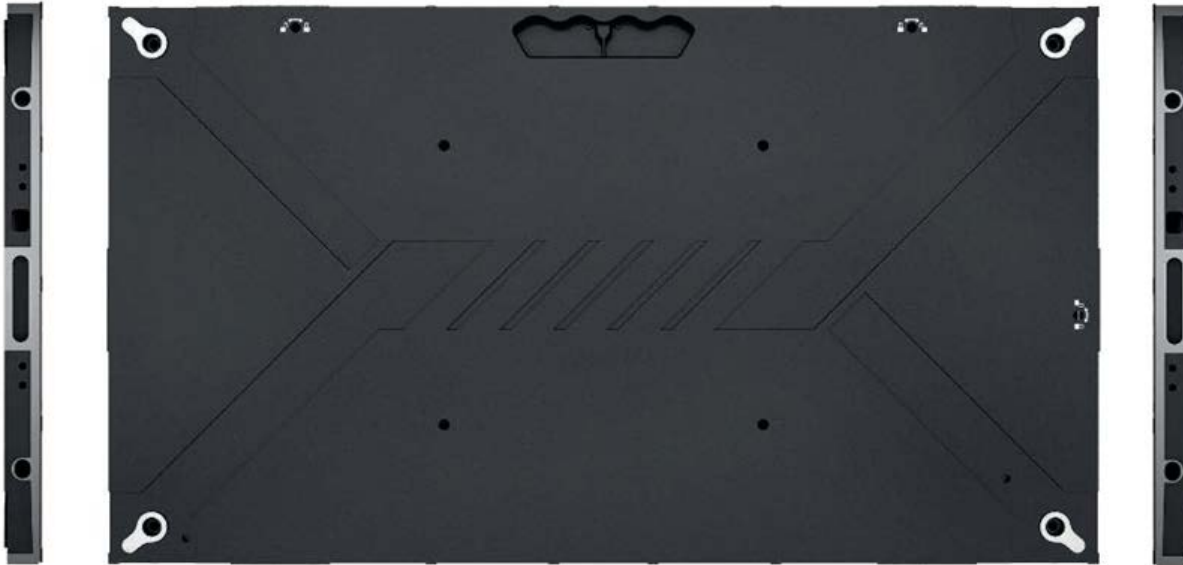

Figure 28
1. Install the left and right edgings. The left and right edgings are clipped in the side spring locating pinhole with clips (as previously described, the spring locating pin on the leftmost of the screen should be removed and an edging should be installed), as illustrated in Figure 28: